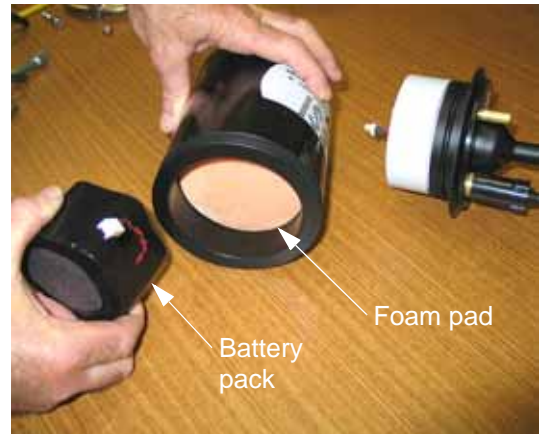

Figure 7-8: Inserting a Fresh Battery Pack
- ▶ 2 Install a fresh battery pack into the housing, being sure the foam pad is inserted first as shown in Figure 7-8.